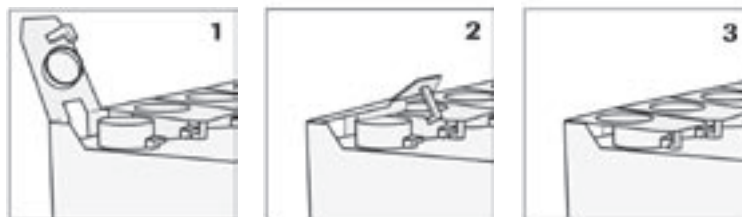

Figure 25: Lid positions.
- 1 Take the lysis rack (I, transparent) and pipet 250 µl of freshly prepared working solution into the wells (e.g., using a multi-pipette). Push the lids down in covering position. The individual positions of the lids are shown in Figure 25: (1) open, (2) covering, (3) closed.